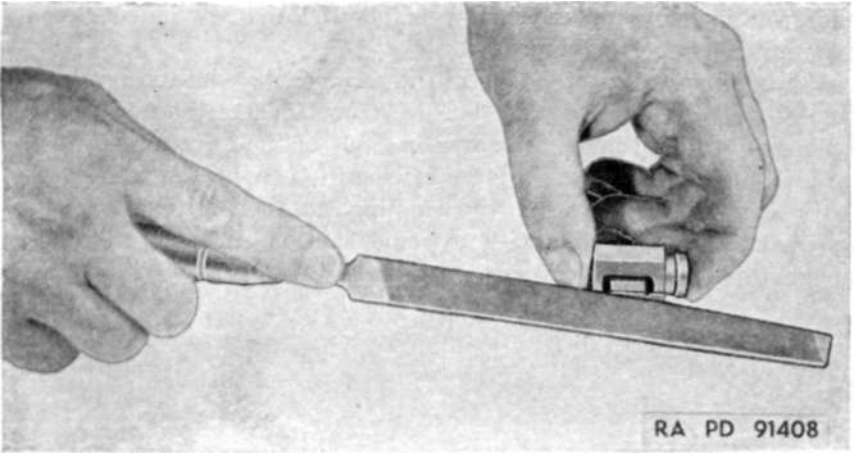

Figure 42. Filing rear sight base to fit undersize dovetail slot.
w. When the sight requires more than 54 inch-pounds pressure to assemble it to the receiver, remove the sight assembly and file the bottom of the sight base as shown in figure 42. Do not attempt to file the edges of the sight base, and under no circumstances should the receiver be filed.